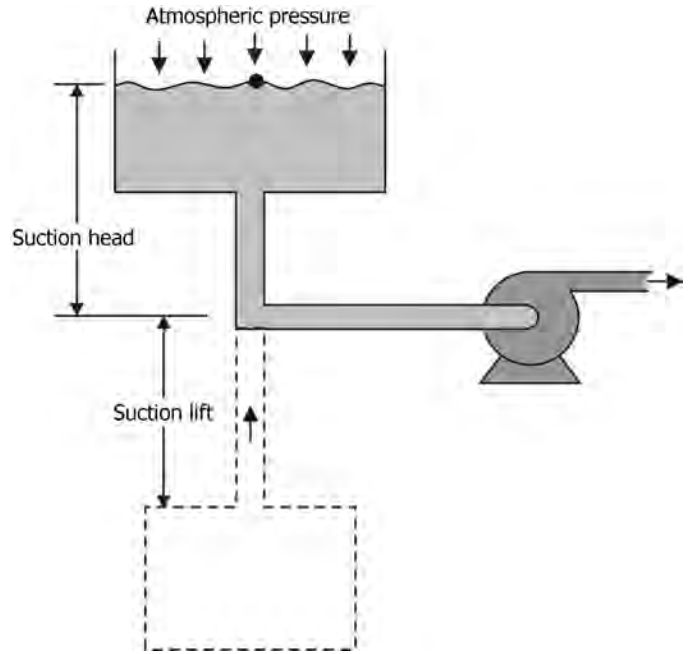

FIGURE 5.7 Suction head and suction lift for a centrifugal pump.
- Figure 5.7 illustrates suction head and suction lift for a centrifugal pump.